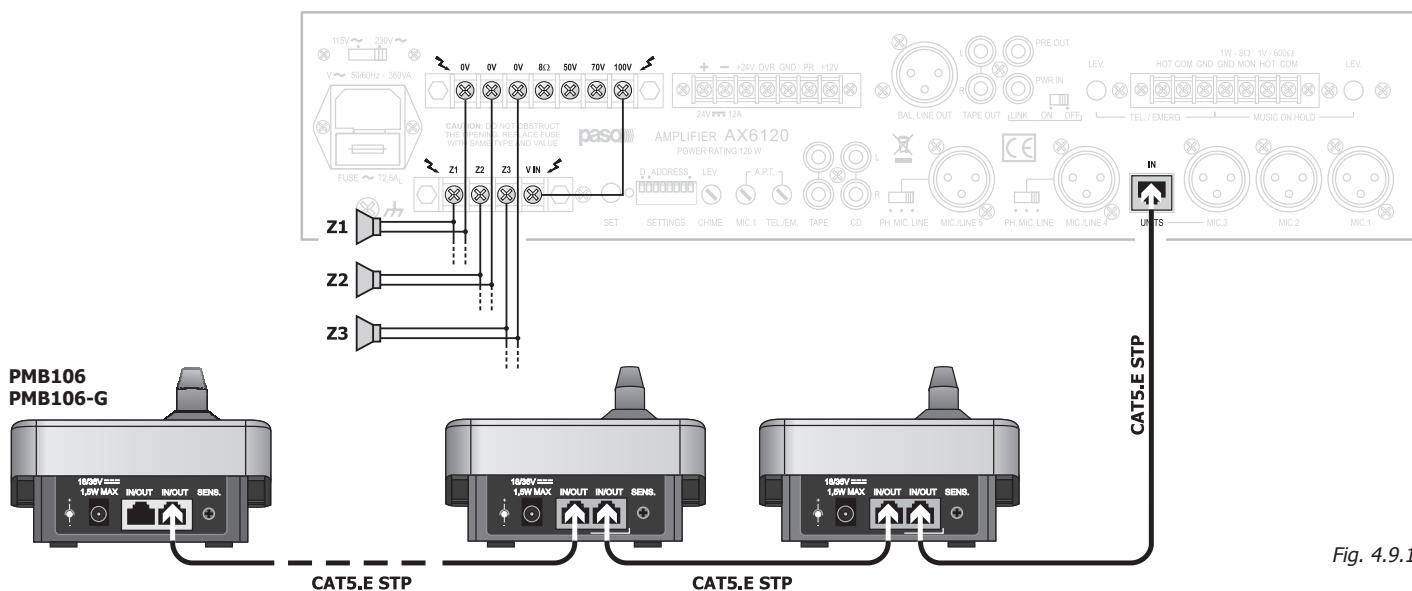

Fig. 4.9.1
The selection will be made automatically via connection to the **IN UNITS** socket (22). An example of a connection for a three-zone calling system is illustrated in Figure 4.9.1. The output level is controlled from the front panel (2).